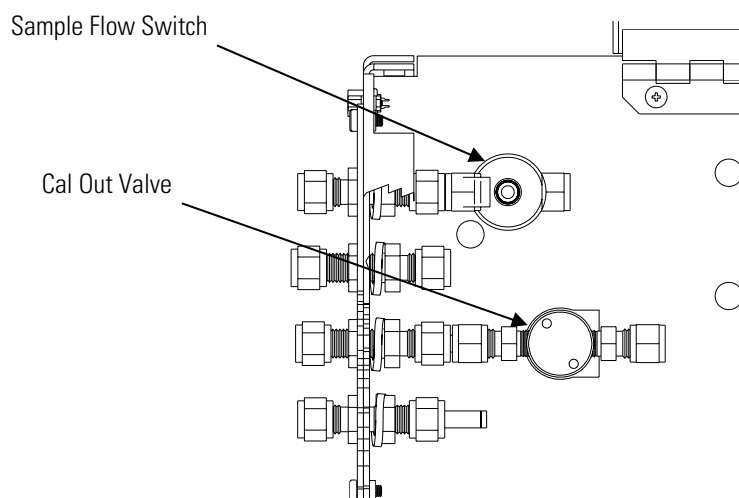

Figure 7–14. Replacing the Sample Flow Switch or the Cal Out Valve
Use the following procedure to replace the 2-way cal out solenoid valve (Figure 7–14).
2. Disconnect the cal out valve cable from the SAMPLE connector on the measurement interface board (Figure 7–14). Cut the cable ties as appropriate.